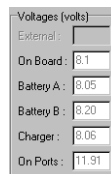

Figure 2-6. View Voltages Information
7. View the Voltages information (Figure 2-6).